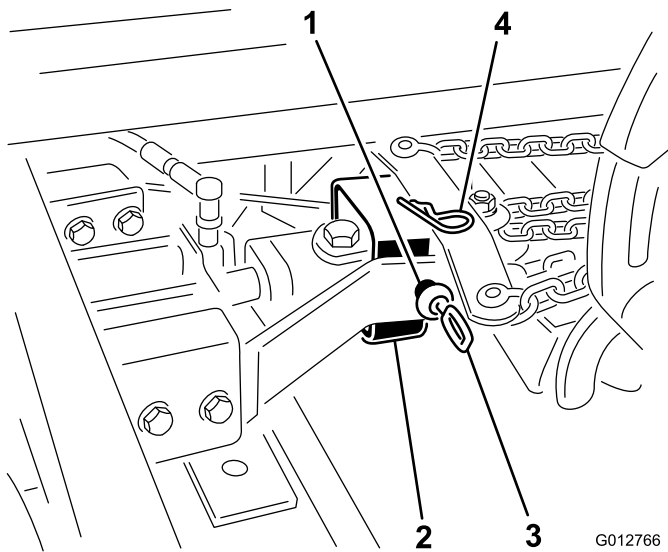

Figure 23
5. Slide lockup pin through holes in lockup bracket and secure with hairpin cotter (Figure 23).